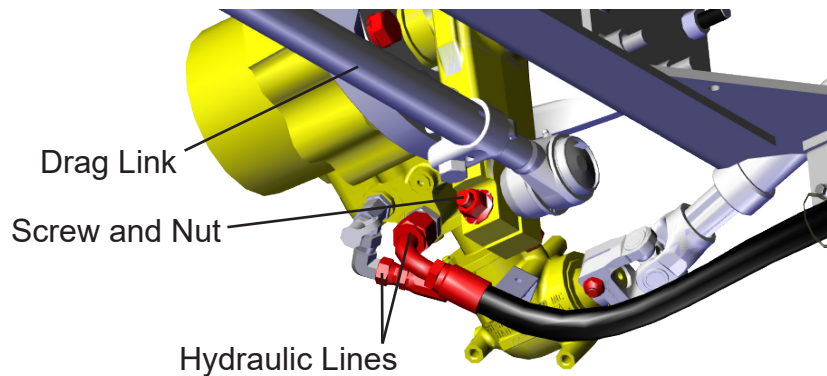

Figure 12
33. Connect the two hydraulic lines disconnected in Step 7 to steering gear. See Figure 12.
34. Install drag link to pitman arm. See Figure 12.
35. Install screw and nut in pitman arm to secure drag link. See Figure 12. Final tighten to 170 ft. lbs.